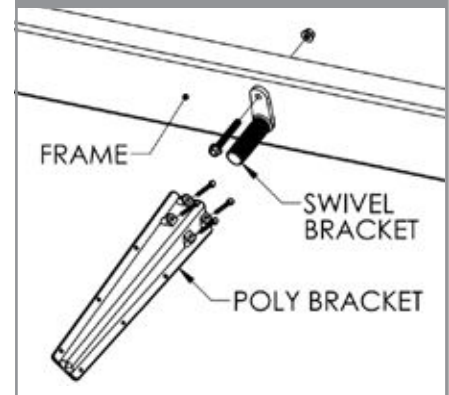

FIGURE 8
- Place four 5/16" x 3" bolts through the (PB501026PL) poly bracket and the (PBLOCK) backing block to clamp the (PB5015) swivel. (See Figure 8)